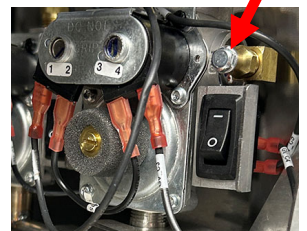

Figure 16
- 30) Remove the outlet pressure test port plug screw (see Figure 16).